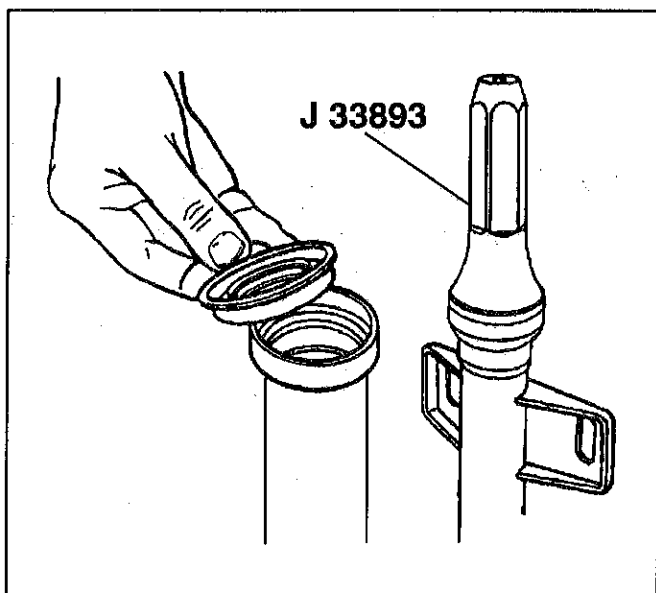

Figure 9—Installing the Shaft Seal
5. Seal with J 33893 (Figure 9).